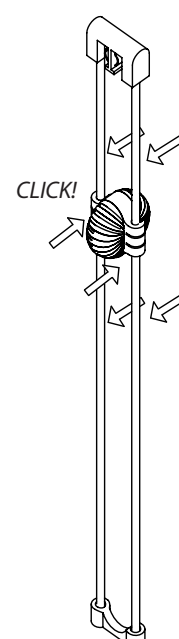

Fig. 7
3. Place the index and middle fingers of each hand on the **Hanger Rods** on either side of the **Ladder Light** and press firmly on both sides of the Ladder Light with the thumbs until the Ladder Light fully clicks into place (Fig. 7).